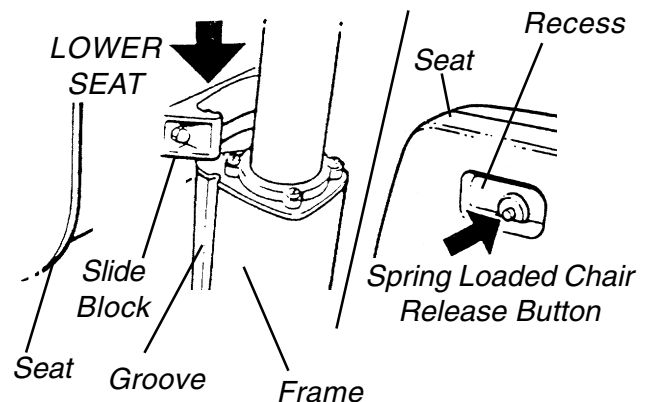

FIGURE 10 - INSTALLING THE SEAT
### Installing the Seat (FIGURE 10)
5. Lower the seat onto the frame, ensuring that the slide block on the back of the chair slides down the two (2) grooves on the frame as shown in FIGURE 10.